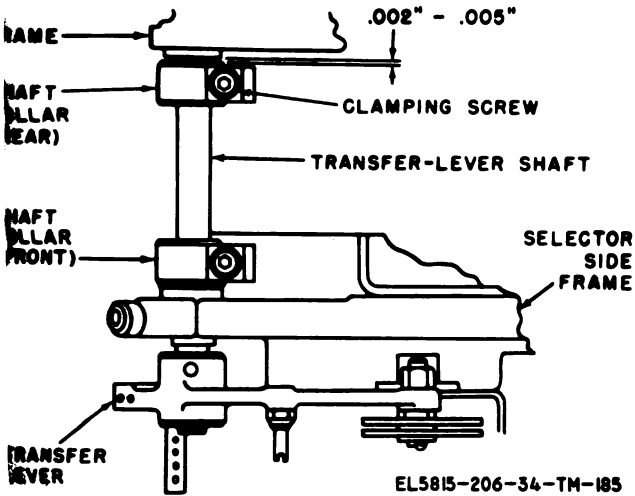

Figure 3-113. Transfer-lever-shaft end-play adjustment.
**3-146. Transfer-Lever-Shaft End-Play Adjustment (fig. 3-113)**